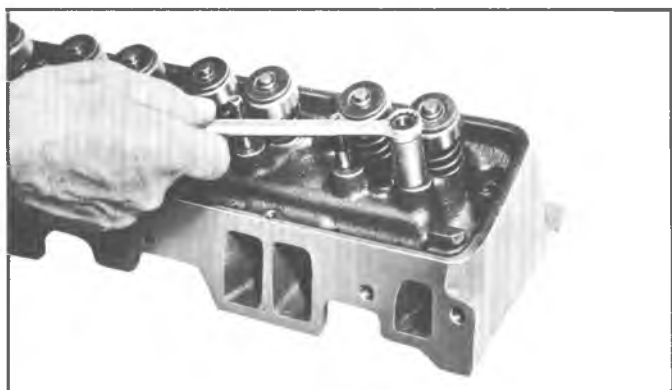

Fig. 19—Removing Rocker Arm Stud (In-Line and "Small V8")
1. Remove old stud by placing Tool J-5802-1 over the stud, installing nut and flat washer and removing stud by turning nut (fig. 19).